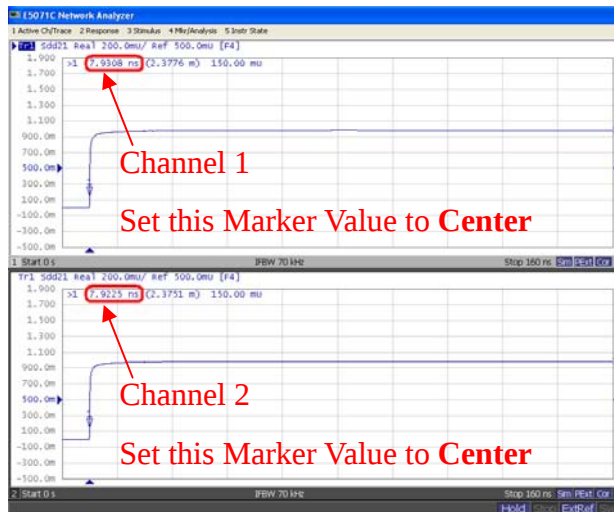

Figure 5.8.3 Marker Value to set Center
18. Press **Analysis** > **Transform** > Set **Center** to Marker Value. (Refer to Figure 5.8.3